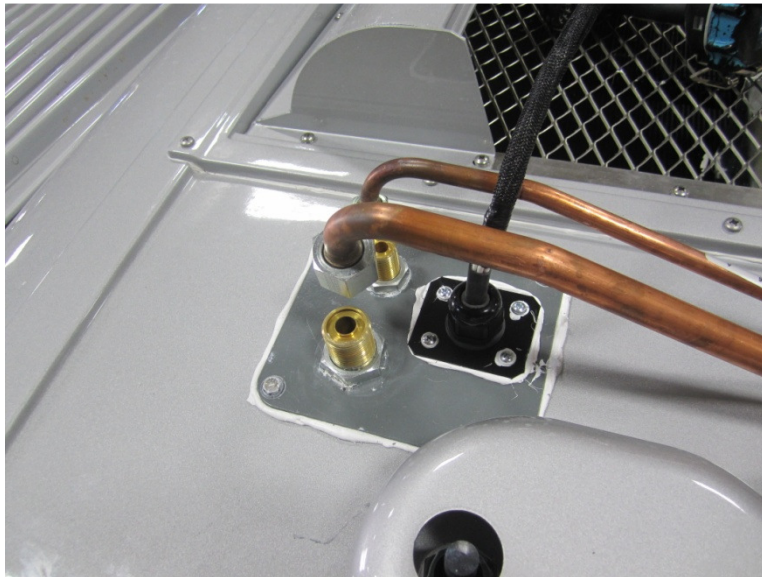

Figure 5: Harness Transition Roof Through Bulkhead
- b. Secure the bulkhead plate, on the harness, to the bulkhead plate previously installed on the bus roof using four 10-24 x 5/8 bolts (NF PN 22S00010), four flat washers (NF PN 10W00000) and four #10 lock nuts (NF PN 40N00000). Apply Sika (NF PN 055701) under the harness bulkhead plate to prevent leaks. Clean any excess Sika after tightening the hardware. Refer to Figure 5.